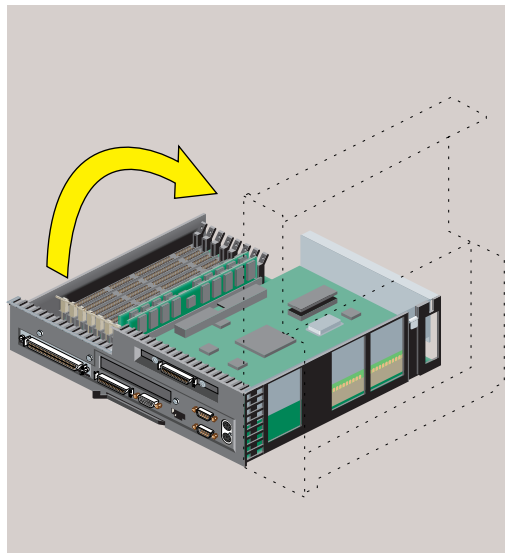

Figure 2-46 Returning the System Module to its Upright Position
1. Return the system module to its upright position (Figure 2-46).